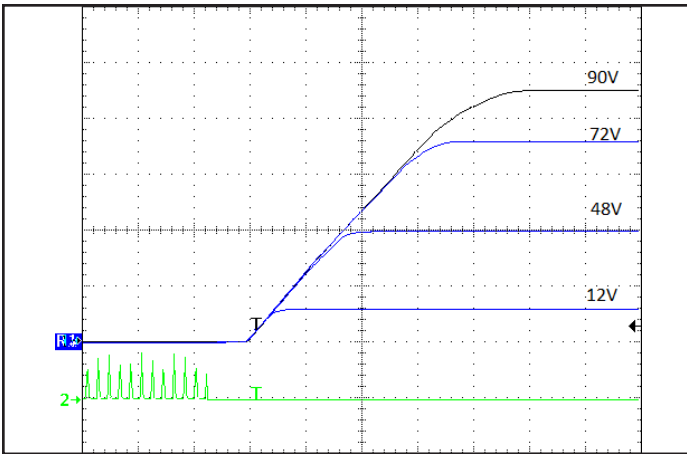

Figure 7: Turn-on transient at 48V input and full load. Top Traces:  $V_{out}$  (20V/div), Ch2: ON/OFF input (5V/div). Timescale: 5 ms/div.
**REMOTE ON/OFF:** Only Negative On/Off logic is available in the converter series: logic high at the input turns the converter Off while a logic low turns in On. Timing of this is shown in Figures 7, 8. A high level can be driven to any voltage between 1.5V and 3.3V, or simply left floating as the unit contains an internal 25KΩ pull-up to 5.0V. The pin can be pulled low (to Vsense-) by an optocoupler, an open-source/drain transistor or wired permanently to Vsense-. To provide noise immunity the input has 0.3V of hysteresis.